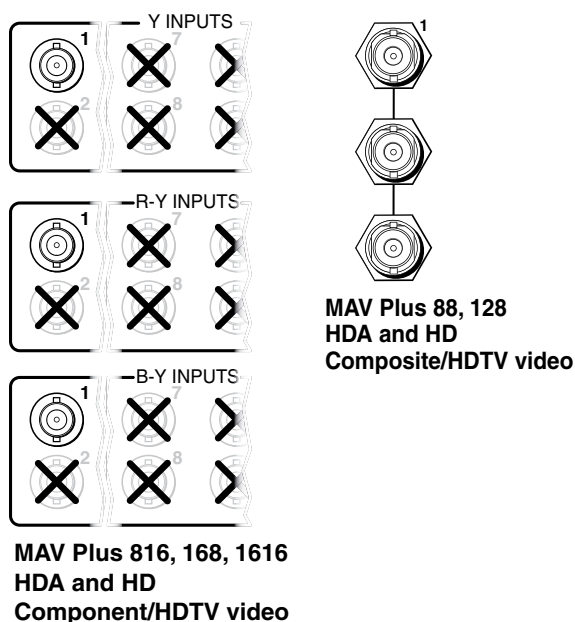
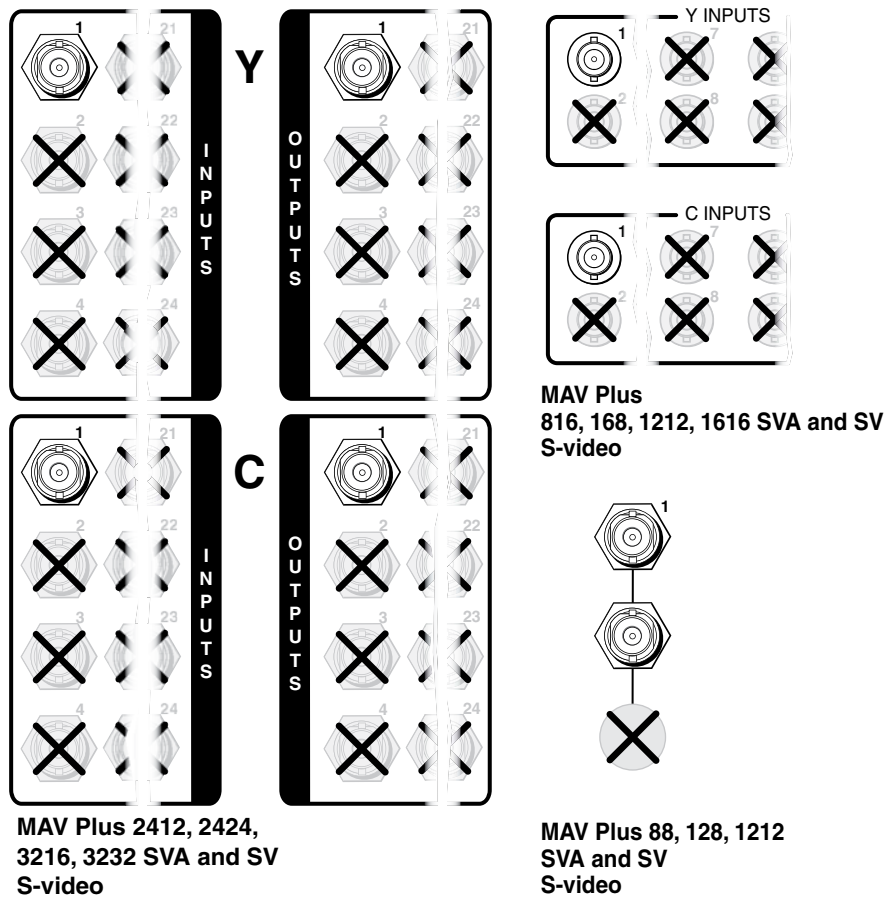

Figure 16. MAV Plus Component/HDTV Video Connections
Figure 17. MAV Plus S-video Connections
- The connectors for each video plane are grouped together (for example, for component/HDTV switchers, all of the Y inputs grouped together, all of the R-Y inputs grouped, and so on). Ensure that you connect the input on each video plane to the corresponding connector in the correct group (see figure 16, below and **figure 17** and **figure 18**, both on the next page).
- A Video inputs** — Connect component/HDTV video (see figure 16), S-video (see **figure 17**), or composite video (see **figure 18**) inputs, as applicable, to these BNC connectors for each input.
- B Video outputs** — Connect component/HDTV video (see figure 16), S-video (see **figure 17**), or composite video (see **figure 18**) displays, as applicable, or other devices to these BNC connectors for each output.